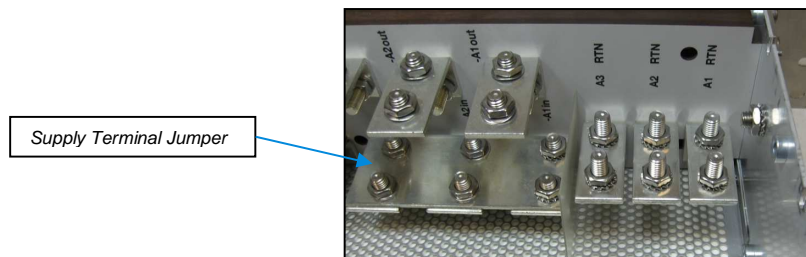

Fig. 6 – Supply Terminal Jumper
- A jumper (provided separately) may combine the supply terminals of each zone to one supply input per zone (see fig. 6).